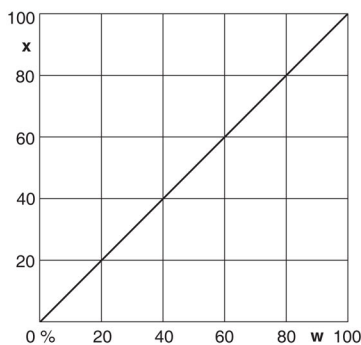

Fig. 4.1
4.1 "Linear". Consulte a Fig. 4.1